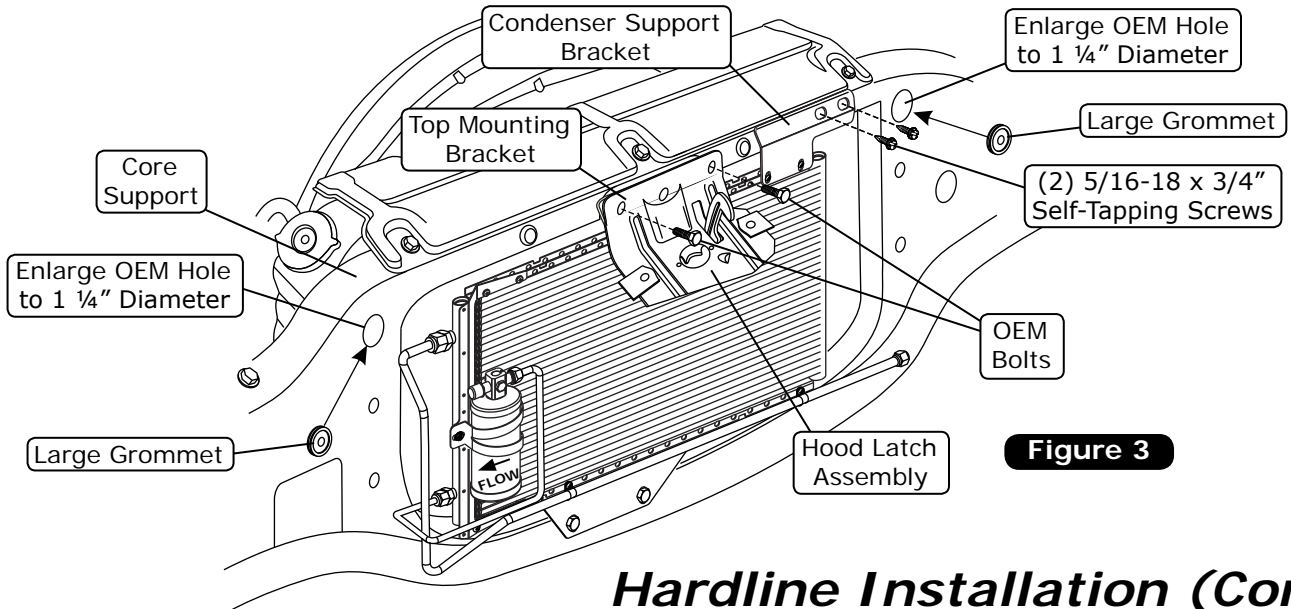

Figure 3
5. Reinstall the hood latch assembly using the OEM bolts. Install the OEM bolts through the hood latch assembly, top mounting bracket and core support (See Figure 3, below).
6. Install the condenser support bracket to the core support using (2) 5/16-18 x 3/4" self-tapping screws (See Figure 3, below).
7. Enlarge the OEM holes on the core support to 1 1/4" diameter as shown in Figure 3, below. **NOTE: For vehicles without factory air, see the core support modification instructions on Page 6.**
8. Install (2) large grommets into the 1 1/4" diameter holes on the core support as shown in Figure 3, below.